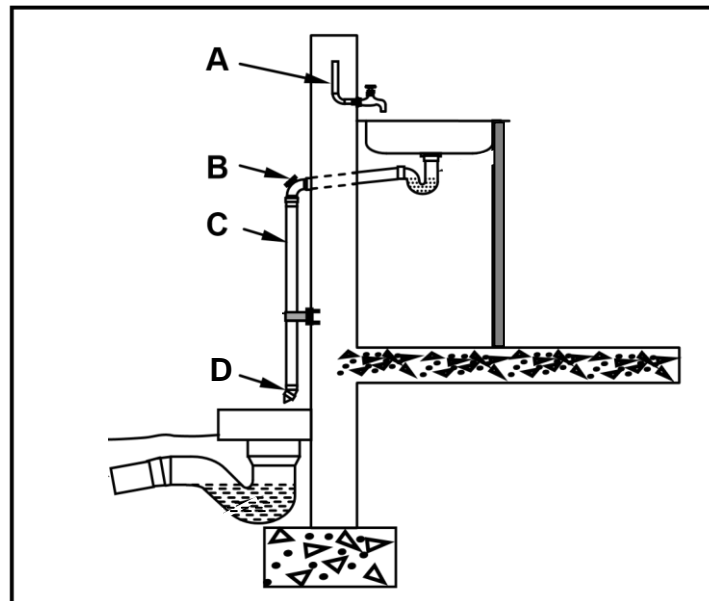

FIGURE 6.5
- 6.5 FIGURE 6.5 below is a drawing of a typical sink installation. Study the drawing and answer the questions that follow.